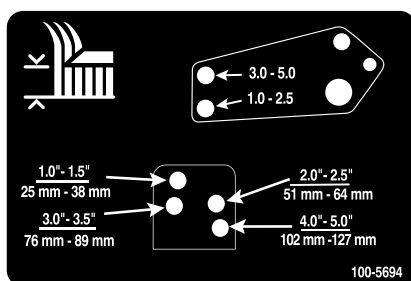

Figure 23
10. Align the damper-link holes with the selected height-of-cut bracket holes in the mower-deck frame, insert the clevis pins, and install the hairpin cotters (Figure 23).